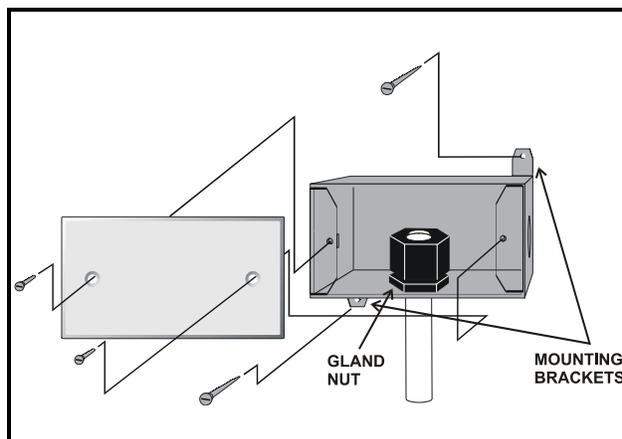

Figure 3-26 - Outdoor RH Sensor - Exploded View
1. Secure the rear side of the enclosure to the outside wall using the two mounting brackets, as shown in *Figure 3-26*. The tube holding the sensor element should point straight down.